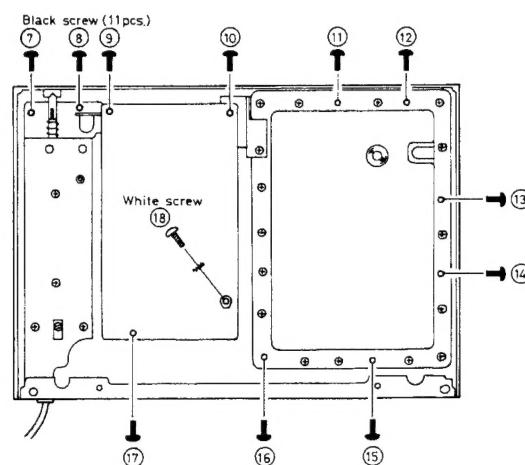

Fig. 8
3. Remove 2 setscrews (⑤ ~ ⑥) in Fig. 8) on the rear panel.
6. When installing, refer to Fig. 8 and pay attention to installing positions and screw sizes.
1. Remove 6 setscrews (⑪ ~ ⑯) shown in Fig. 8.